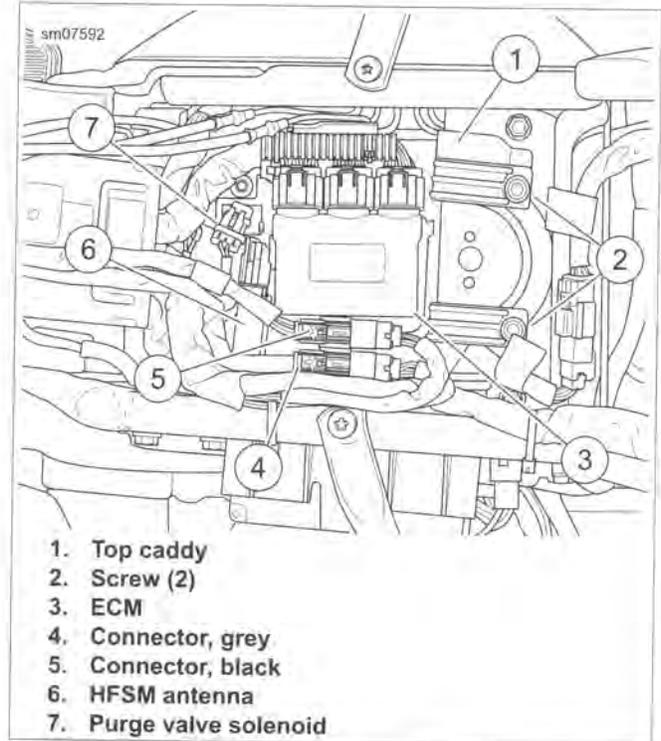

Figure 7-120. Top Caddy
2. See Figure 7-120. Release HFSM antenna (6) from top caddy.
1. See Figure 7-120. Connect HFSM antenna (2) to harness.